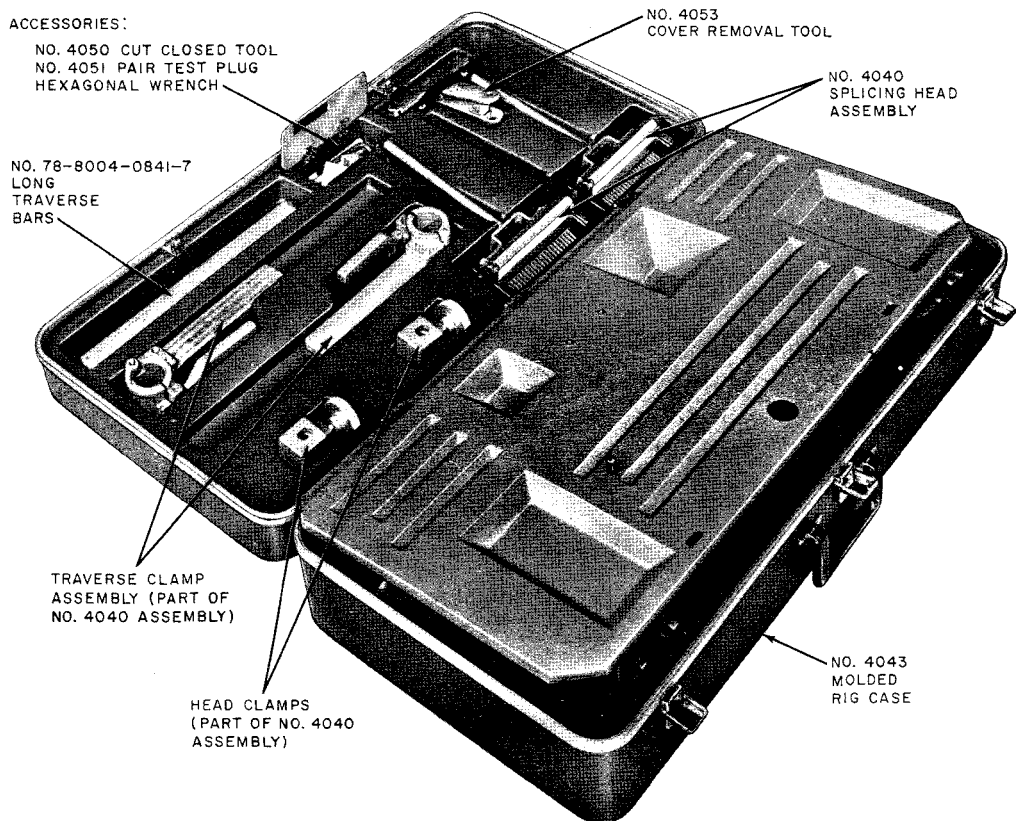

Fig. 2—No. 4030 Molded Rig Carrying Case—Top Compartment
- (7) No. 4043 Molded Rig Case—for storing and transporting system components (Fig. 2 and 3)